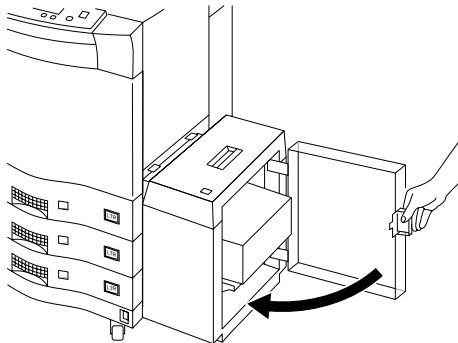

Figure 4-12 Close HCI Door
3. Load the paper and close the HCI door. See Figure 4-12.